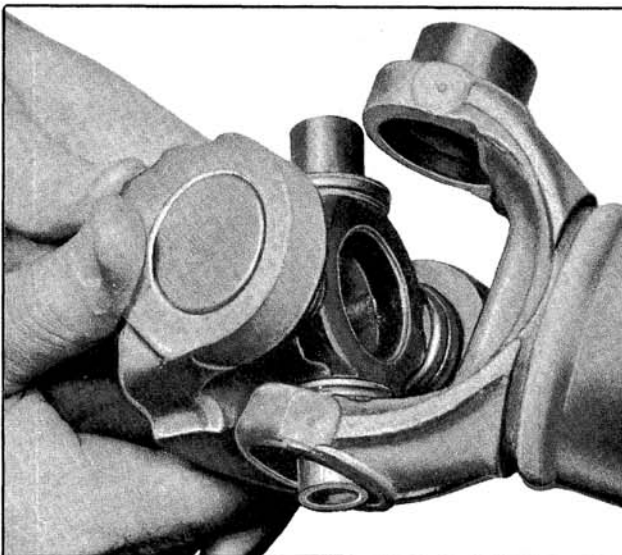

Fig. 10-77 Installing Spider Journal
3. Position a spider journal in a shaft yoke. (Fig. 10-77)